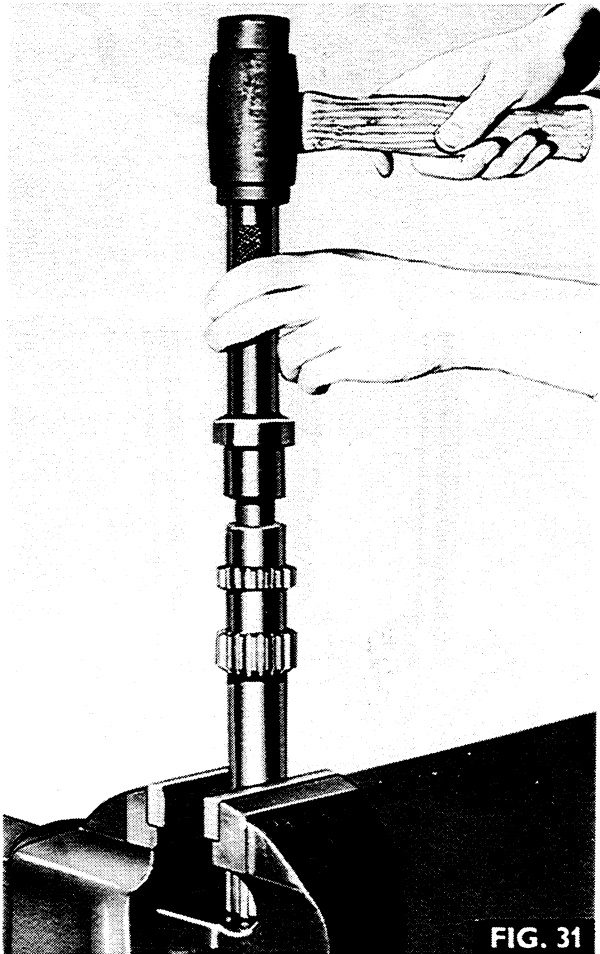

FIG. 31
1. Fig. 31. Position the new needle roller bearing squarely over its bore in the rear drive shaft.